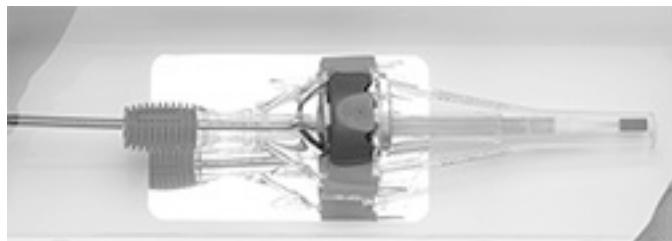

Figure 25
18. Advance the capsule over the bioprostheses until the capsule comes within 5 mm of the catheter tip (Figure 25).